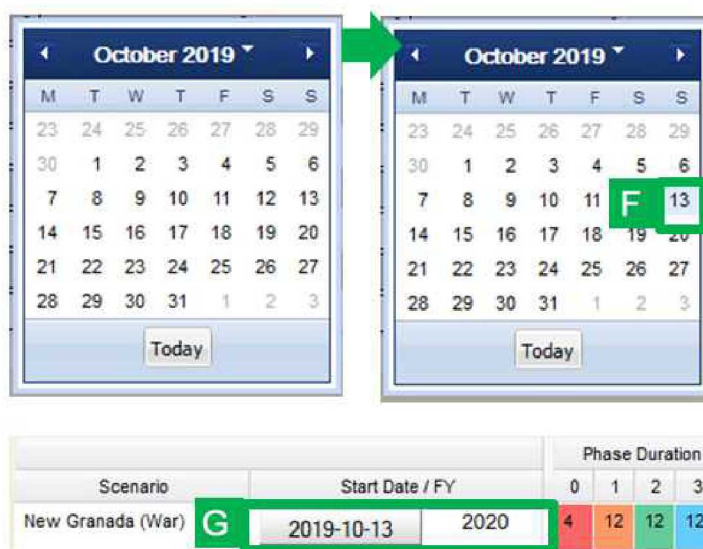

Figure 26. Selecting the day for a start date.
8. You will be returned to the calendar view. Click on a Sunday (last column on the right) for the start date of the scenario (step F in Figure 26).
9. The start date and FY will be updated in the table (step G in Figure 26).